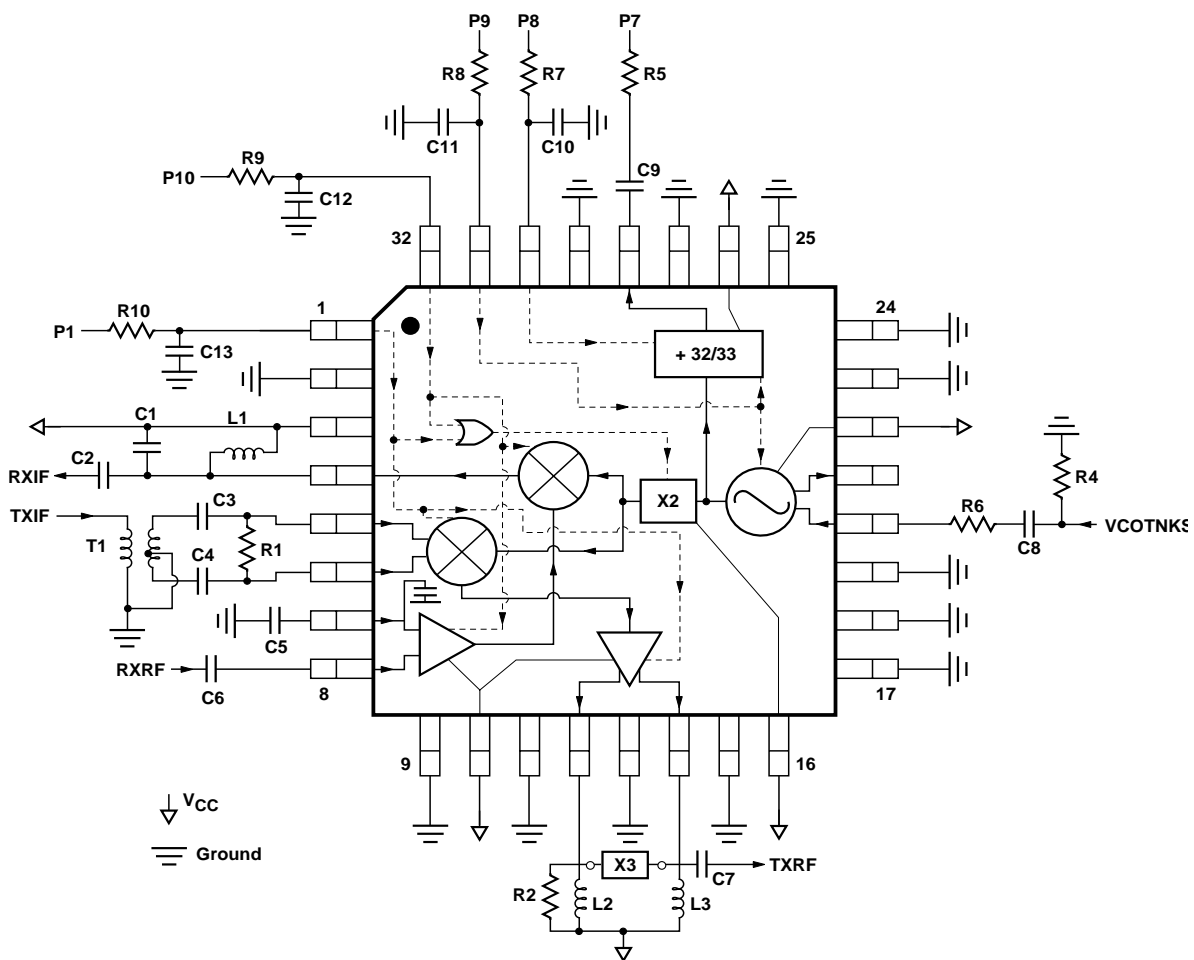

Figure 28. Test Board Schematic Diagram. All I/O Labels Correspond to Those on the Test board. See Table 3 for Component Values.
- DIV output AC coupled into a 2 k $\Omega$  || 10 pF load. See test diagram, Figure 28.
**Table 3.** Test Board Components Shown in Figure 28.
For transmit upconversion, a differential narrow-band modulated signal is AC-coupled into the TXIF and TXIFB inputs. The differential signal may be generated by the HPMX-5002 IF Demodulator/Modulator. Once on-chip, the signal is buffered and applied to a double-balanced Gilbert cell mixer. The upconverted RF signal is then amplified to generate a -0.6 dBm single-ended, single-sideband power signal at the 1 dB compression point. The RF outputs, TXRF and TXRFB, are open-collector outputs (see test diagram Figure 28 for recommended matching network). The TXRF output is AC-coupled into a 50  $\Omega$  transmit filter. This signal is then filtered and amplified off-chip by an external power amplifier before it is switched into the antenna. The HPMX-5001 may also be used in DECT systems which utilize direct modulation of the 1LO for data transmission. In this case, either the TXIF or TXIFB input, but not both, must be tied to  $V_{CC}$  to cause the upconverting mixer to act as a buffer stage.
In receive mode, a preamplified RF signal is passed through an image filter and applied as a single-ended signal to the 50  $\Omega$  RXRF input. Use of a 2.7 pF blocking capacitor is recommended. RXRF is the non-inverting input of the RF input amplifier. The inverting input of this amplifier, LNAREF, is self-biased and requires only an external capacitor (recommended value of 3.3 pF) to ground. The receive downconversion mixer also employs a double-balanced Gilbert cell configuration. The production version of the HPMX-5001 will have two equivalent open collector outputs. The HPMX-5001 can operate at IF frequencies up to 300 MHz (see Figure 28 for recommended matching network).